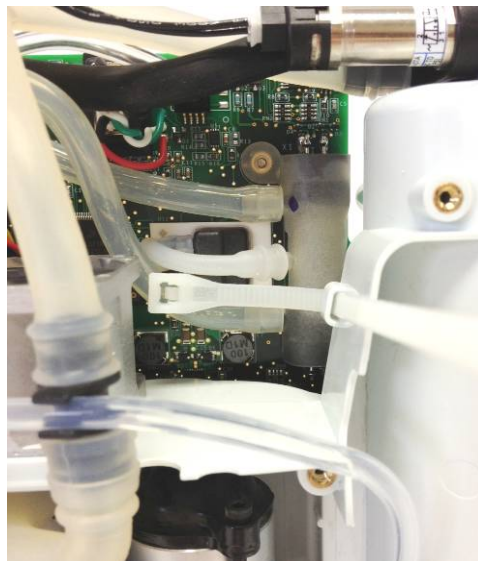

Figure 11: Zip tie properly oriented in chassis
1. Before installing the new accumulator, string a new zip tie through the loop in the chassis as shown in figure 11.